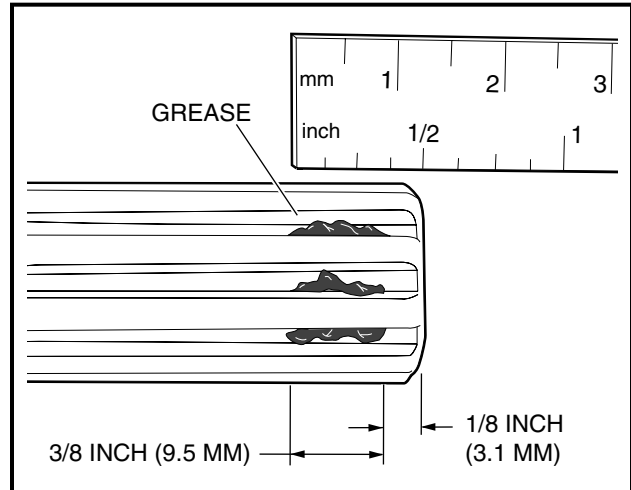

Figure 15-15 Application of grease to Input Shaft Grooves
- 2.3. Apply motor coupling grease evenly to the rotating input shaft starting at approximately 1/8 inch (3.1 mm) from the end of the shaft and working back toward the transaxle (away from the end of the shaft) (**Figure 15-15, Page 15-13**).